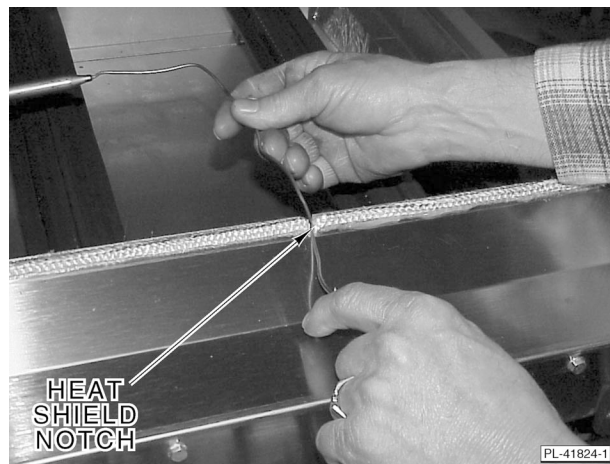

**Fig. 15**
3. Triangle-shaped Bricks (4) — Place two each side (Fig. 15).